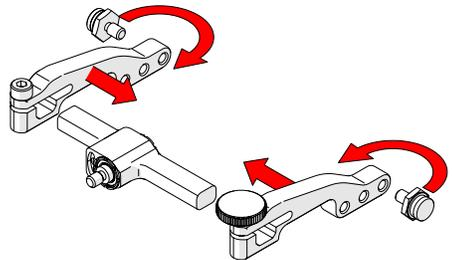

Fig. 118 - Attach arms and move buttons
4. Place the pivot buttons on the inside of the probe holder arms (Fig. 118) using a 3/8 in wrench (Fig. 19). Slide the arms onto the yoke and tighten the probe holder arm adjustment knob and the arm clamp screw.